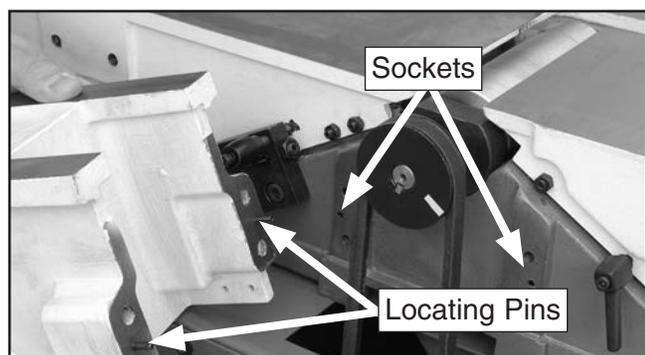

Figure 17. Locating pins.
1. Align the locating pins on the back of the carriage mounting bracket with the sockets on the jointer table (see **Figure 17**).